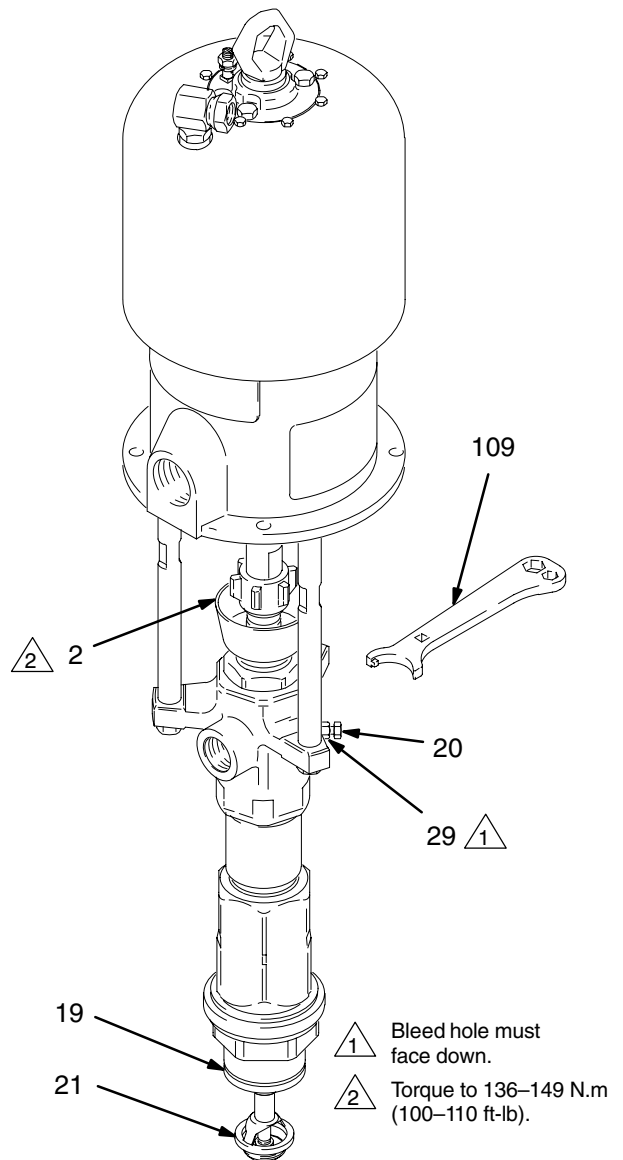

Fig. 3
Before starting, fill the packing nut (2) 1/3 full with Graco Throat Seal Liquid (TSL) or compatible solvent. See Fig. 3.
8. If the pump fails to prime properly, open the bleeder valve plug (20) slightly. Use the bleed hole, on the underside of the valve body (29), as a priming valve until the fluid appears at the hole. See Fig. 3. Close the plug.
**NOTE:** When changing fluid containers with the hose and gun/valve already primed, open the bleeder valve plug (20), to help prime the pump and vent air before it enters the hose. Close the plug when all air is eliminated.